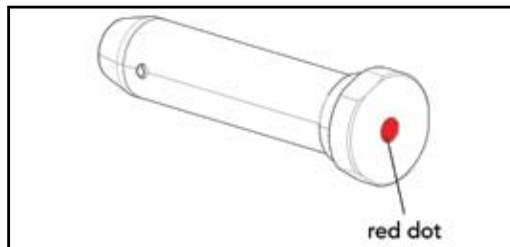

Fig. 51 – HK Proprietary Buffer
**WARNING: Ensure that only the proprietary HK buffer (marked with the HK logo and red dot) and recoil spring (action spring), also marked with red paint, are installed in the MR556A1. Use of non HK buffers and recoil springs could result in cycling problems and affect the reliability of the MR556A1 (Fig. 51).**